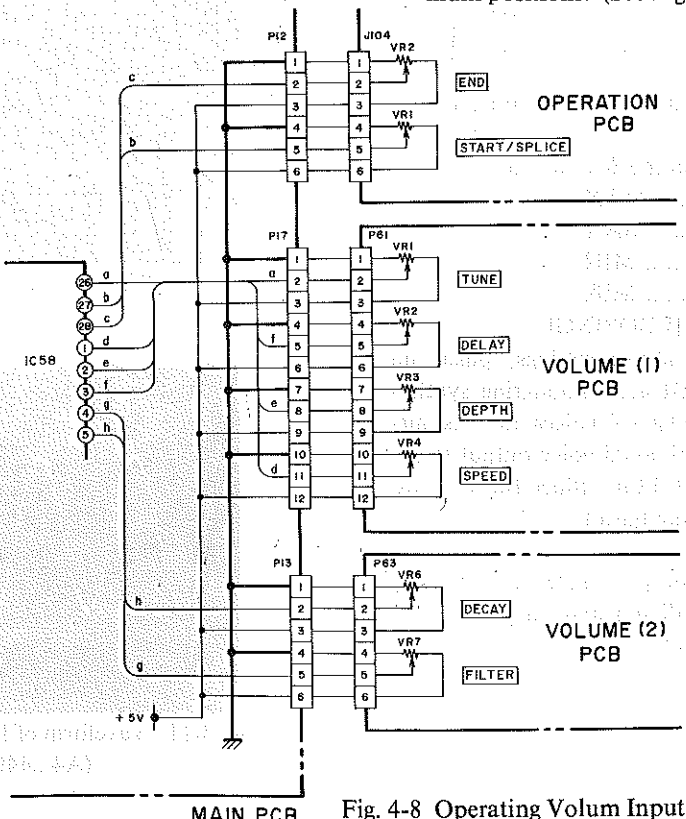

Fig. 4-8 Operating Volume Input Circuit
2) By operating the VRs, check to assure the DC levels at IC58 pins 1 to 5 and 26 to 28 to rise in correspondence with the VR positions, and to reach an "H" level (5 VDC) as the VRs have been set at their maximum positions. (See Fig. 4-8)